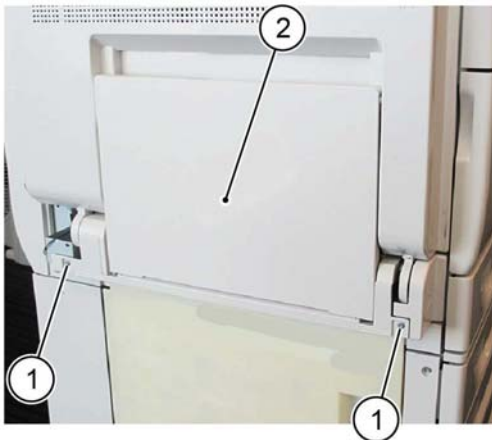

Figure 3 Bypass tray removal
3. Remove the bypass tray, Figure 3:
- a. Remove two screws (1).
- b. Remove the bypass tray (2).